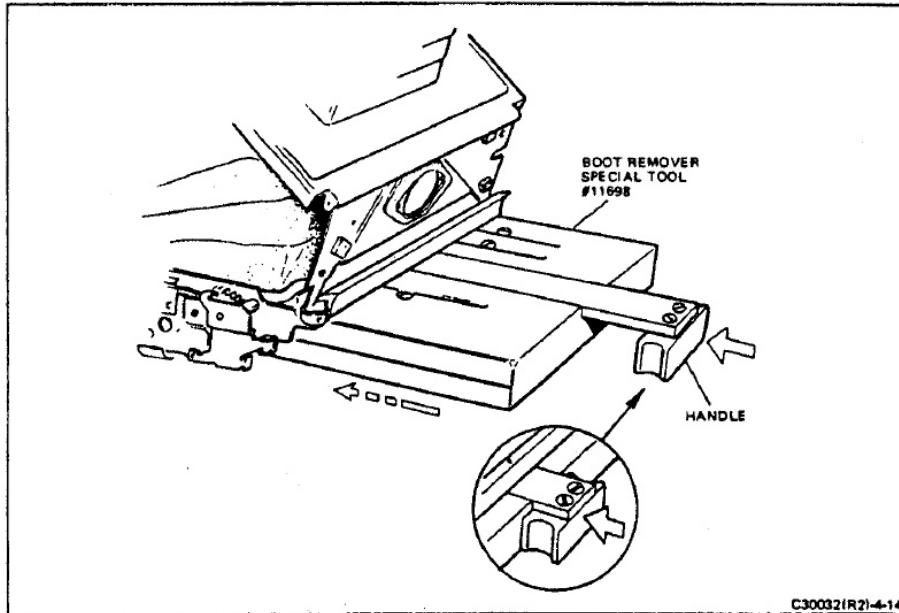

FIGURE 4-14 BOOT REMOVAL TOOL
- Referring to Figure 4-14, note orientation of the handle; this must be as shown to prevent damage to tool and/or camera. Insert boot remover, Special Tool #11698, into the film compartment of the camera. Note that the plunger handle is out, away from the body of the tool. Be sure that the body of the tool is fully seated in the film compartment.